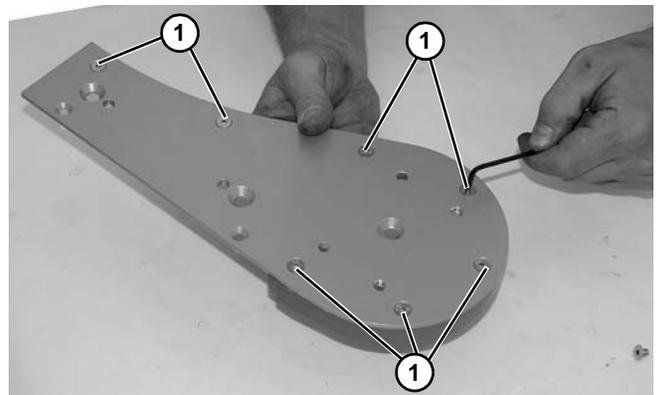

**Figure 134**
5. Remove upper retaining guide (**Figure 134, item 1**) from drive plate (**Figure 134, item 2**).